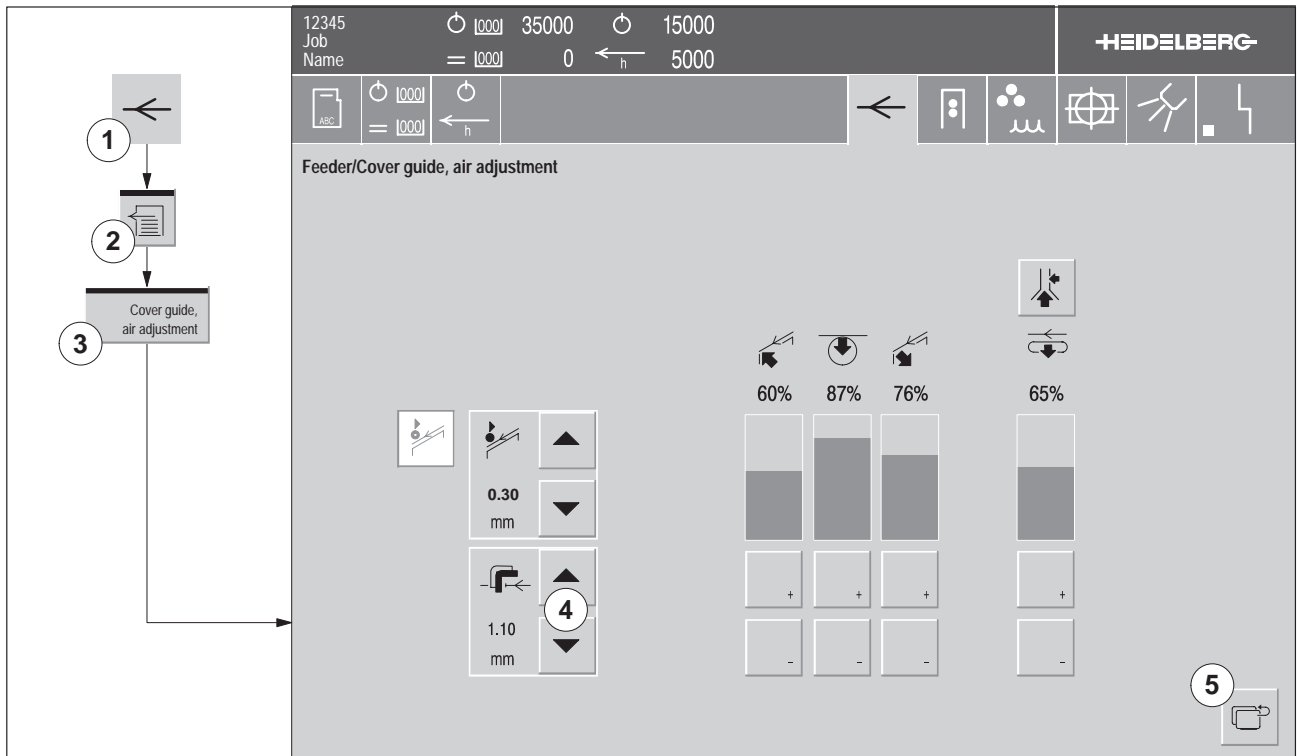

Fig. 6 Changing the cover guide height later
1. Press the *Sheet travel* button (Fig. 6/1) in the banner line. The **Paper run** menu appears.
2. Press the *Feeder* button (Fig. 6/2). The **Paper run/Feeder** menu appears.
3. Press the *Cover guide, air adjustment* button (Fig. 6/3). The **Feeder/Cover guide, air adjustment** menu (Fig. 6) appears.
4. Use the arrow keys (Fig. 6/4) to select the cover guide height in mm. The selected value is displayed to the left of the arrow keys.
5. To exit the menu: Press the *Return* button (Fig. 6/5), or a button in the banner line.